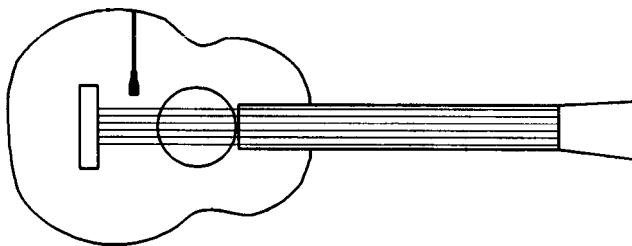

Fig. 2. Miking an acoustic guitar with a GLM-100.
***Acoustic guitar:** taped to the soundboard face up, halfway between the bridge and the sound hole, near the low E string (Fig. 2).